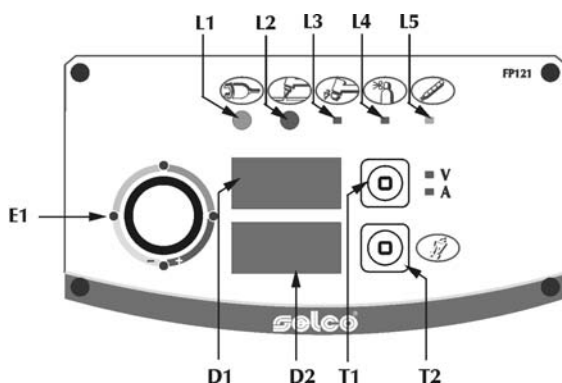

Fig.1
4.1 Betjeningspanel foran (Fig. 1)